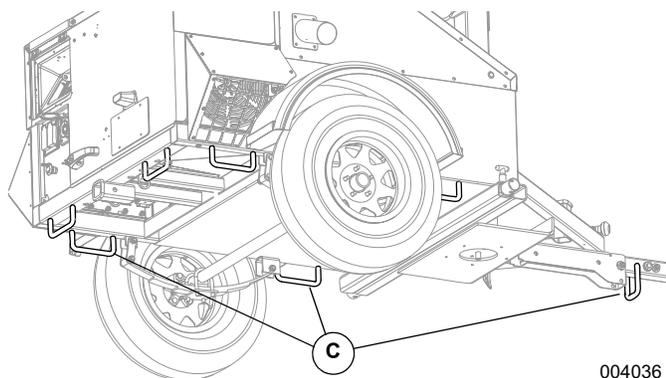

Figure 3-13. Tie-Down Points
See Figure 3-13. Use the tie-down points (C) as shown.